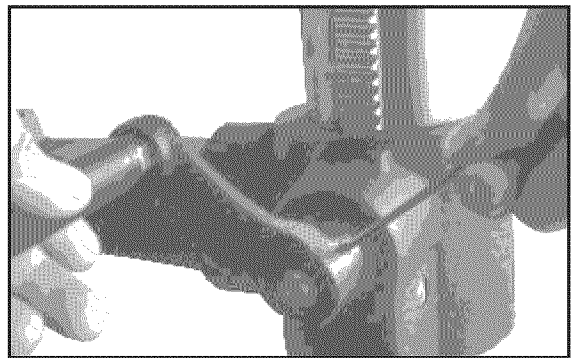

Figure 12
2. Install the raising/lowering handle with L wrench as shown (Figure 12).